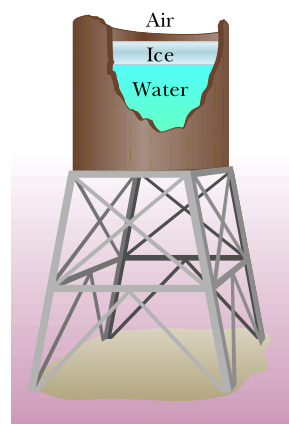

Figure 18.24 Problem 61.
**61** **M** **CALC** **SSM** In Fig. 18.24, a  $5.0$  cm slab has formed on an